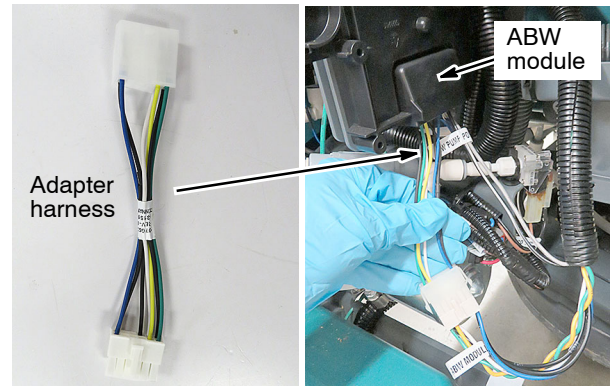

Fig. 15
15. Unplug the wire harness from the ABW module and install the new adapter harness between the wire harness and module (Figure 15).